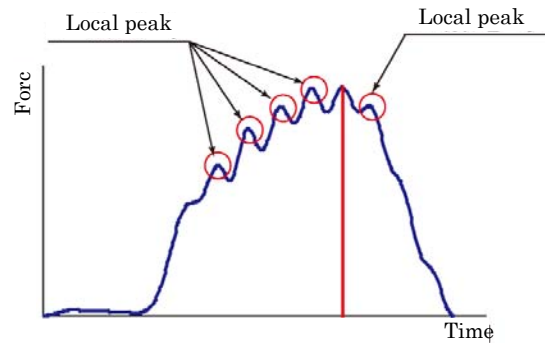

Fig. 3-1 Occurrences of Local Peak
- The value shows the number of local peaks in the first and second halves of the waveform measured (See Figure 3.1).